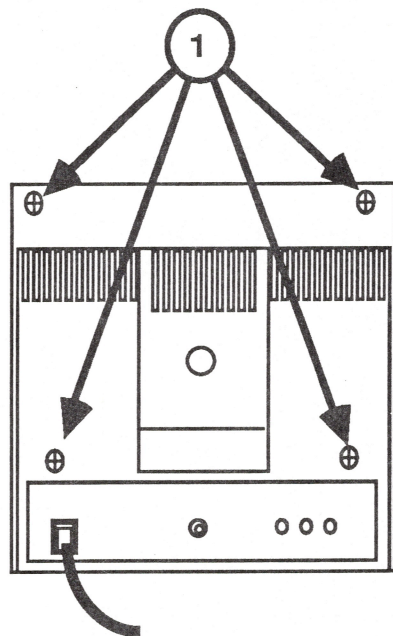

FIGURE 39
4. Replace the four screws (Figure 39, #1) at the back of the monitor.